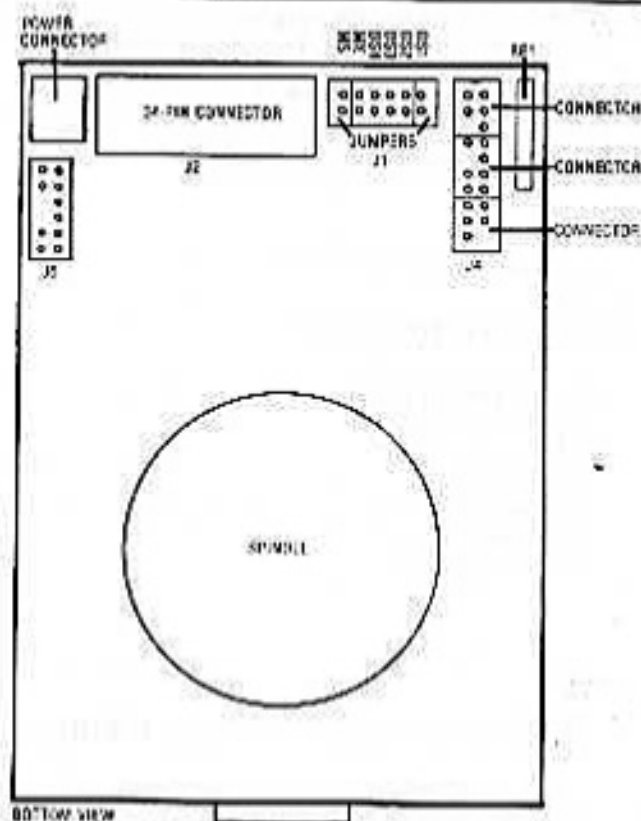

FIGURE 7 - SHUGART SA300 DISK DRIVE
2. Orient the drive as shown in FIGURE 7.